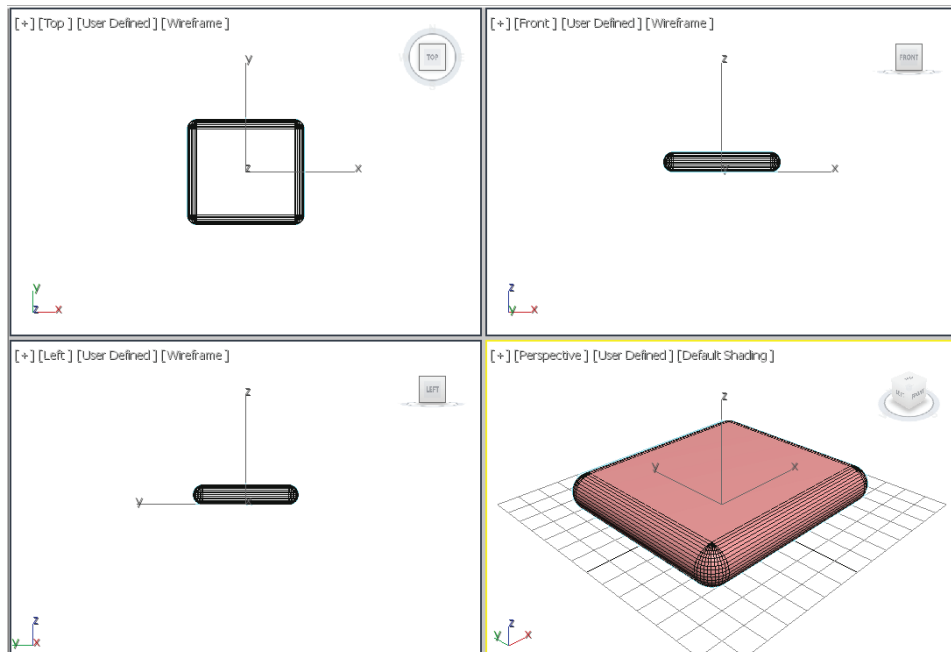

Figure 3-31 The chamfer box created for seat support of the chair
- Make sure the chamfer box is selected. In the **Parameters** rollout, set the value **10** in the **Fillet Segs** spinner; the chamfer box is modified, as shown in Figure 3-31.